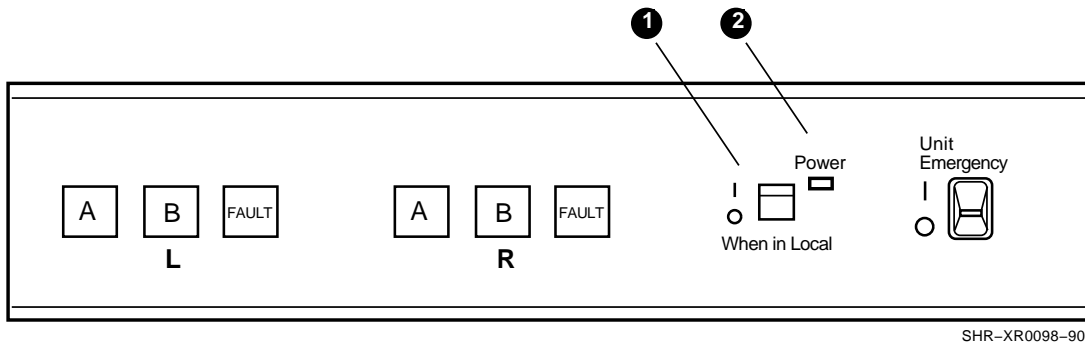

Figure 2-3 Power On/Off Switch and Power On Light
The Power On/Off switch ❶ supplies or removes power to the tape control unit and its attached tape transport units (Figure 2-3).
The green Power On light ❷ comes on when power is supplied to the subsystem (Figure 2-3).